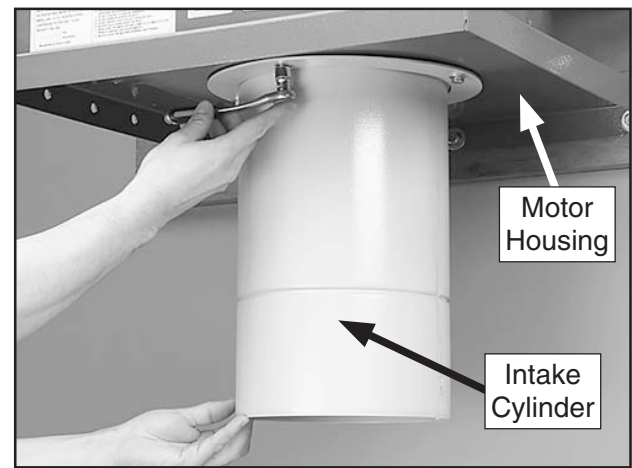

Figure 17. Attaching intake cylinder to the bottom of motor housing.
3. Attach the intake cylinder to the bottom of the housing, as shown in **Figure 17**, using (4) $\frac{5}{16}$ "-18 x $\frac{3}{4}$ " hex bolts and (4) $\frac{5}{16}$ " flat washers.